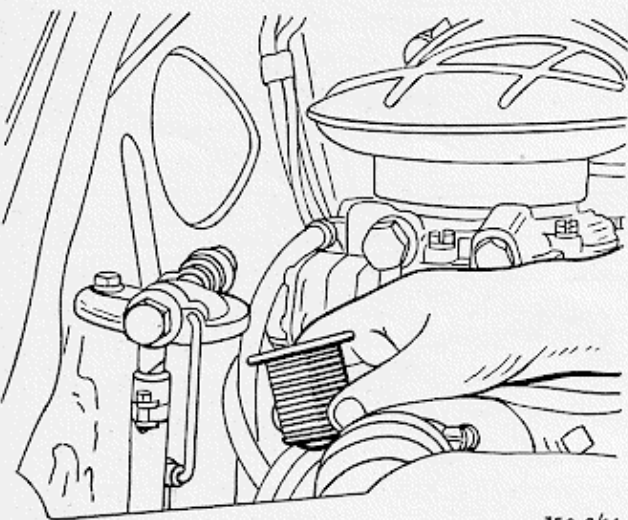

Fig. 14 - Additional Fuel filter for Giulietta Sprint
g) **Dismantle the element in the additional fuel filter** fitted to the Giulietta Sprint, and wash it in petrol (fig. 14).